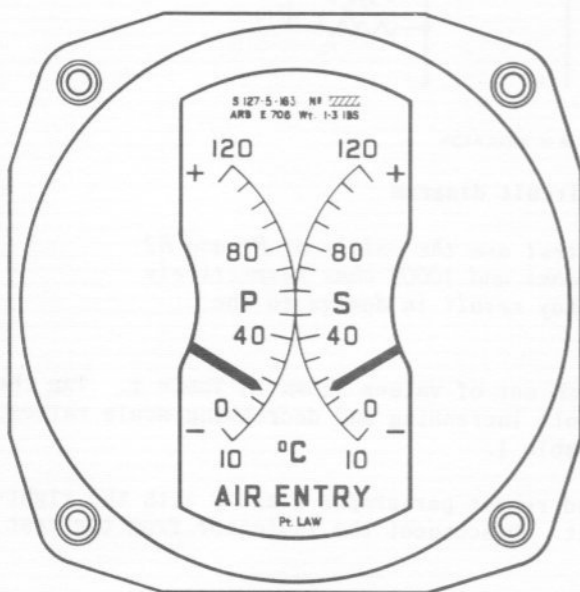

Fig.1 Indicator, Type S127.5.163
1. The indicator, Type S127.5.163 (fig.1) is calibrated in deg.C from -10 to 120 on each of the two scales. The captions, the figures and all dividing lines are finished white on a matt-black background; the pointers are also finished in white.